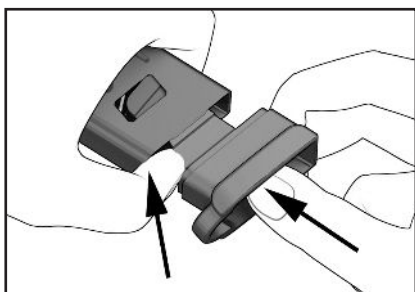

Figure 40
5. On 10-round magazines, push the floorplate up onto the base of the magazine housing until the locking tabs engage in the sides of the housing. (Figure 40)